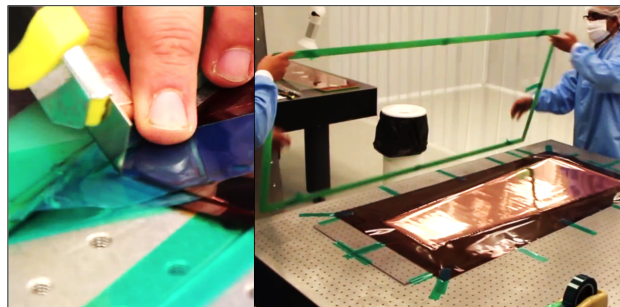

Figure 73: Detaching GEM3.
Step 24: After careful alignment, remove the tape that holds the foil and its frame together (Fig. 73).